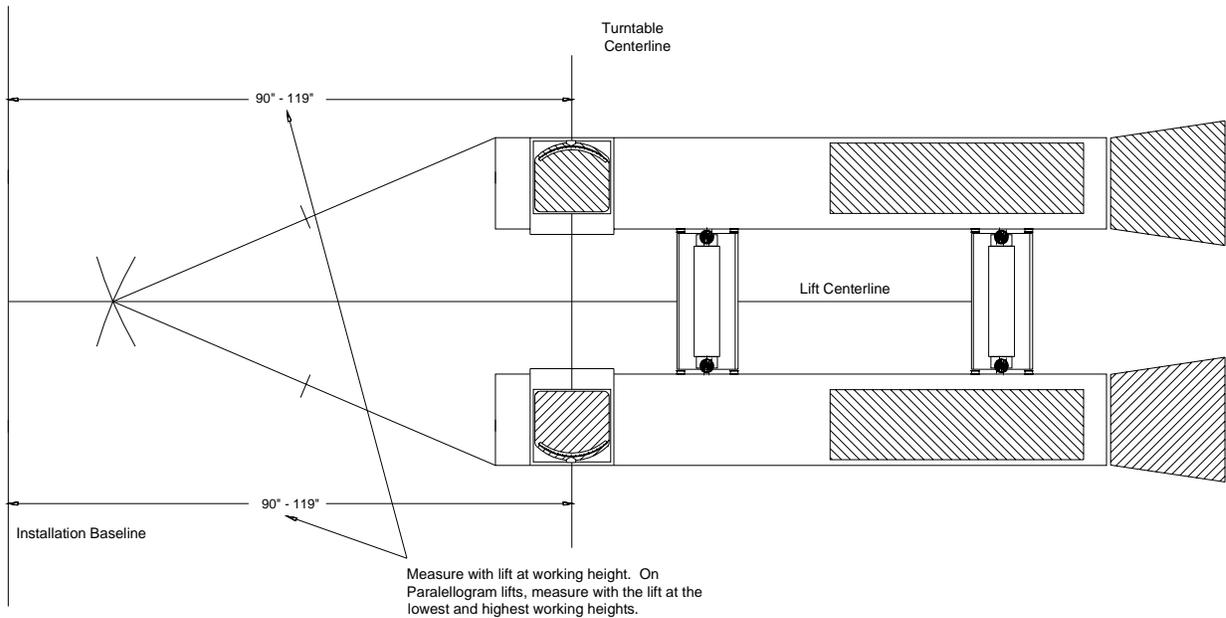

FIGURE 2. DETERMINE INSTALLATION BASELINE
- Measure 108 – 114 inches (or whatever the space will allow within the guidelines in step 4) from the turntable center line forward at two locations and mark these points. Snap a chalk line on the floor through these two points. This is the *installation baseline*. See **Figure 2**. This line must be parallel to the turntable centerline. If installing in front of a parallelogram style lift that moves in rearward arc as it raises, mark the center of the turntable with the lift at the first usable locked and leveled position. Raise the lift to its maximum height. Drop a plumb bob from the turntable centerline and mark the floor at that point. Measure from the first mark to the second mark. This is the total amount of rearward travel of the turntables. Compare the rearward motion of the lift to the installation baseline distance; the baseline dimension – [the distance from the first mark to the second mark] must also fall within 90 – 119 inches. The total tolerance for camera beam installation position relative to turntable centerline is [119 inches – 90 inches] or 29 inches. In this case, proper operation of the lift and camera beam combination is dependent on understanding the effects of lift rearward motion related to camera beam position on the Variable Height Camera Beam Lift.